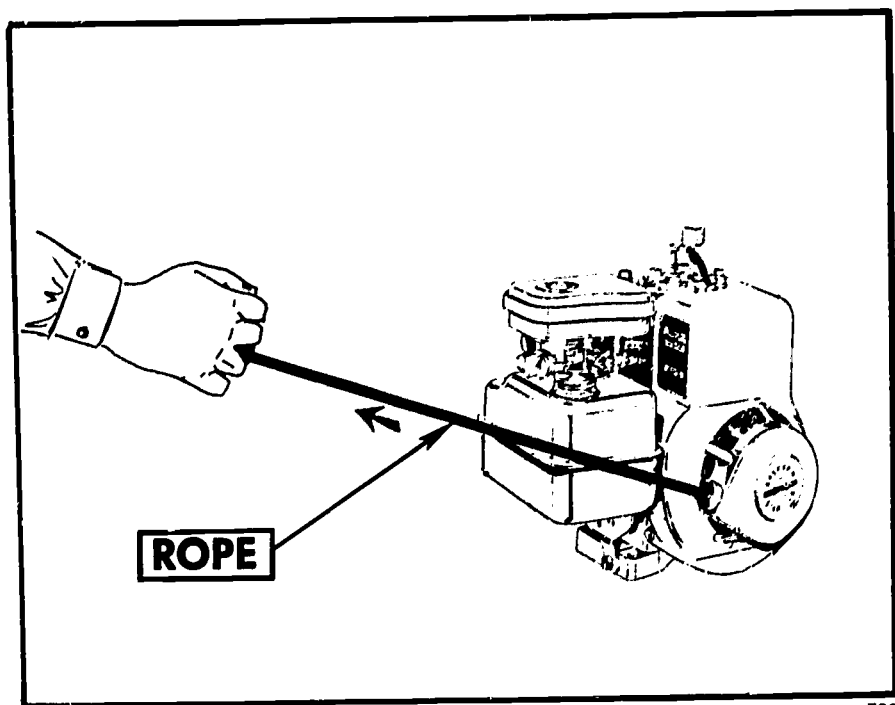

FIGURE 16. Pull the starter rope out slowly for inspection.
3. *Pull the rope out slowly (Figure 16).*